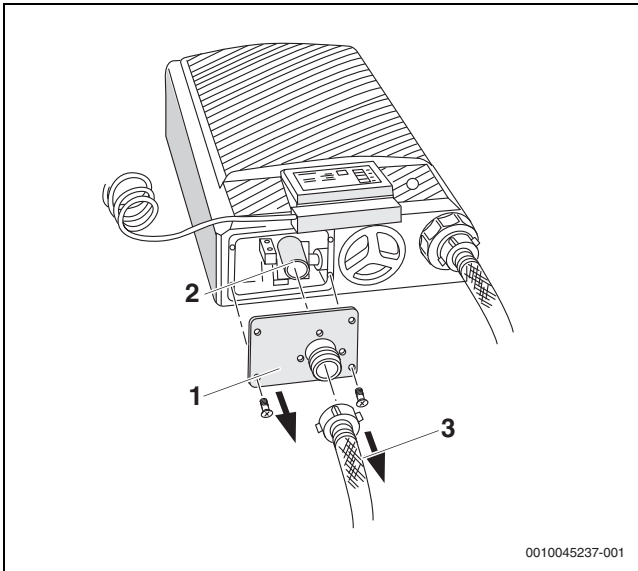

Fig. 11 Removing the cover of the pump housing
- ▶ Unscrew the AKO drain hose (→ Figure 11, [3]).
- ▶ Unscrew the screws from the cover of the pump housing (→ Figure 11, [1]) and remove the cover. The cover is no longer required.
- ▶ Loosen the hose clamp on the pump connector (→ Figure 11, [2]) and pull off the connection hose (attached behind the cover of the pump housing).